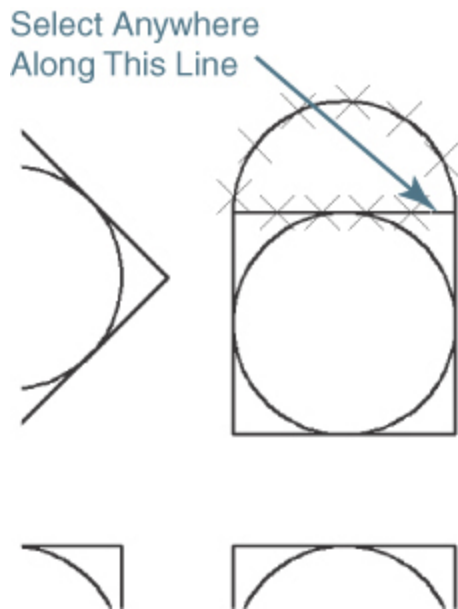

Figure 4-35
- 3 Pick anywhere along the line object on the top right of the drawing, as shown in Figure 4-35. AutoCAD prompts you to *Enter the number of segments or ↓*.
- 4 Type **5<Enter>**. AutoCAD places 4 points along the line that divide the line into 5 equal pieces. The line object has not been changed or broken. Points have just been placed on top of the line. Your drawing should now look like Figure 4-35.